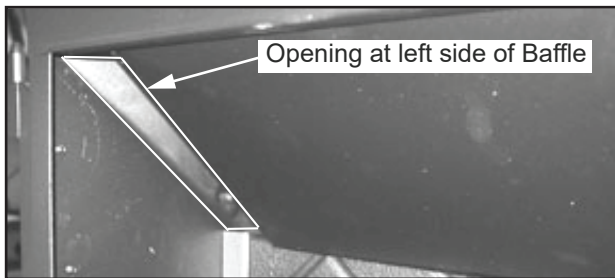

Figure 29.6
6. The baffle does not completely cover the top of the firebox. There is an opening as shown in **Figure 29.6**.